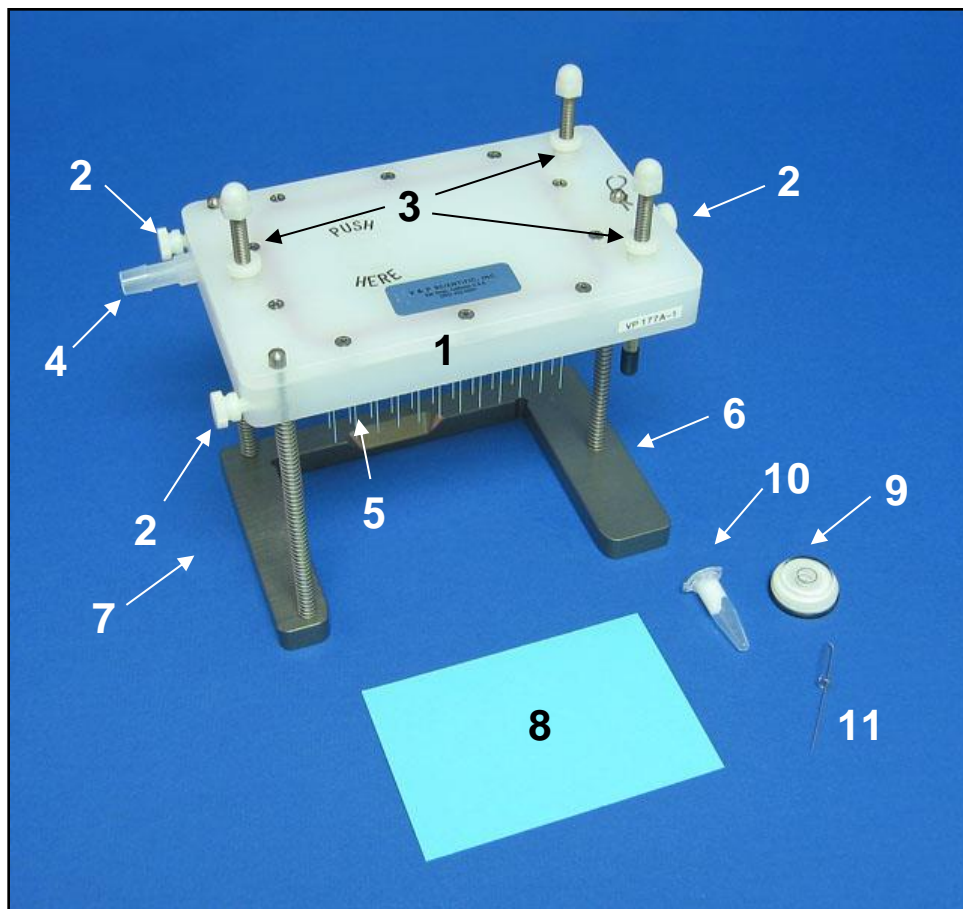
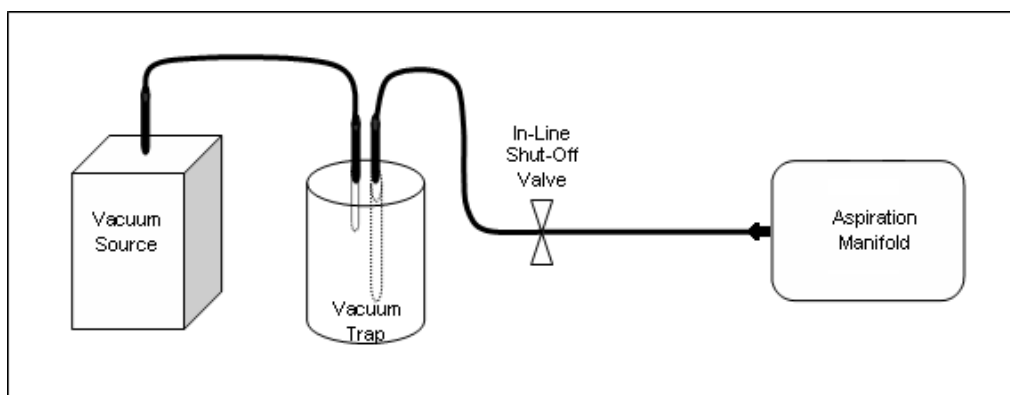

Figure 1. Parts of the VP 177A-1 Aspirating Manifold
Figure 2. Manifold Setup: Connection to Vacuum Source
1. Attach one end of a vacuum hose to the nozzle Outlet Fitting (4) on the Manifold (Figure 1) and other end to a shut-off valve (Figure 2). Place a vacuum trap to collect aspirated liquid between the shut-off valve and vacuum source. This vacuum source can be a pump or a central or "house" vacuum system.
2. Make sure all Aspiring Tubes are clear by aspirating distilled water (not deionized water*) from a microplate. If any Aspiring Tubes are clogged, use the Rapier (11) to clear them. See "Cleaning the System" section below for more details.